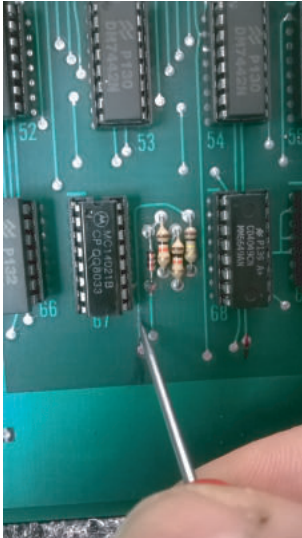

Figure 1
1. Cut trace below U67 as shown in figure 1 & 2